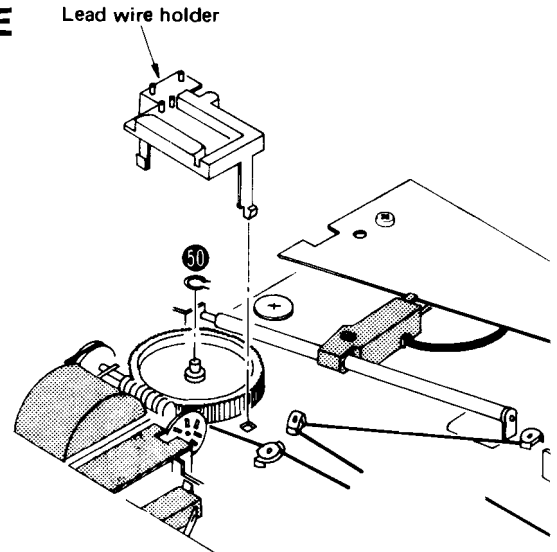

Fig. 23
2. Remove the lead wire holder. (Fig. 23)
3. Remove the C-ring of the arm drive wheel and remove the drive wheel. (Fig. 23 : ⑤)